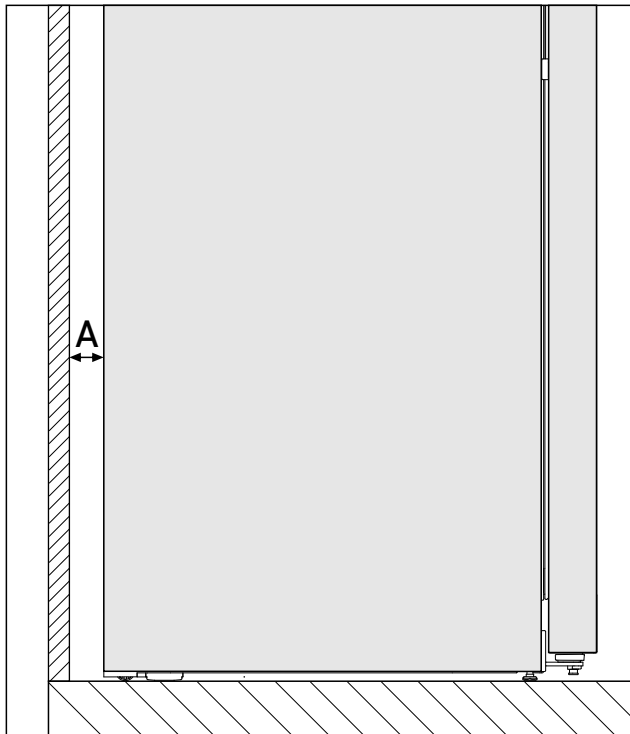

Fig. 3 *
The energy consumption was determined with a wall distance Fig. 3 (A) between the rear of the appliance and the wall. If the wall distance is less than Fig. 3 (A), this has no effect on the functionality of the appliance, but energy consumption increases slightly when the distance to the wall is smaller.*